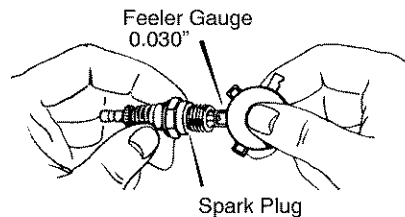

Figure 44
2. Be sure **spark plug** is clean and free of foreign material. Check electrodes gap with a wire **feeler gauge** and reset gap to 0.030" if necessary. See Figure 44.